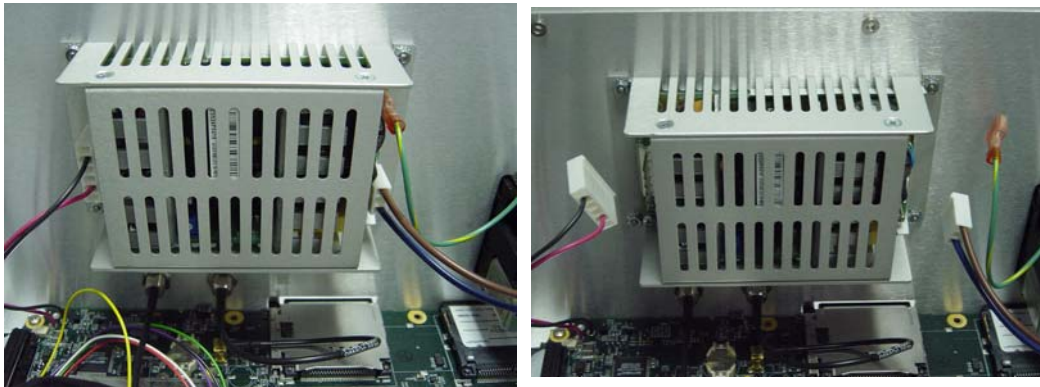

Figure 5-15. Power Supply Mounted on Rear Panel
1. With the chassis upright on a static protected work surface, disconnect the power outlet plug from the left side of the power supply, and disconnect the power inlet plug and the grounding wire from the right side of the power supply. Refer to Figure 5-15.